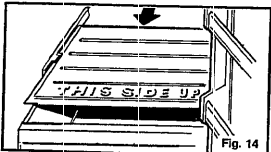

Fig. 14
2. Slide cover of meat pan forward until the notch on its right side lines up with the tab on the right-hand cover support (Fig. 14).